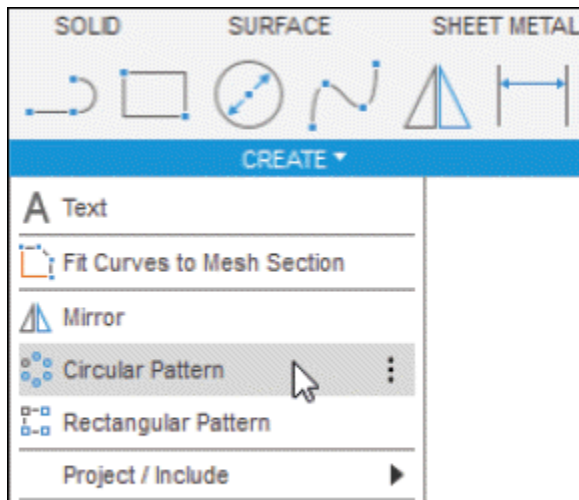

Figure-55. Circular Pattern tool
- Click on **Circular Pattern** tool of **CREATE** drop-down from **Toolbar**; refer to Figure-55. The **CIRCULAR**